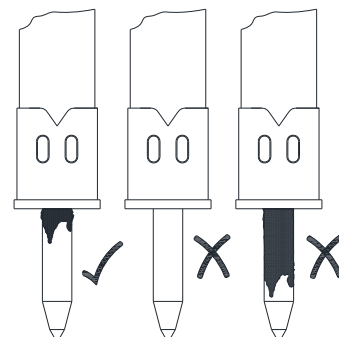

Fig. 7-4 Delivery Adjustment – OK ✓ - Lacking X - Excessive X
Actively monitor the tool for sufficient lubrication. Refer to Fig. 7-4. A wet covering of lubricant must be visible on the tool shank at all times when working.
- Check bushings and tool for fresh grease. A wet coating must be clearly visible on the tool shank at all times when working. Fig. 7-4.